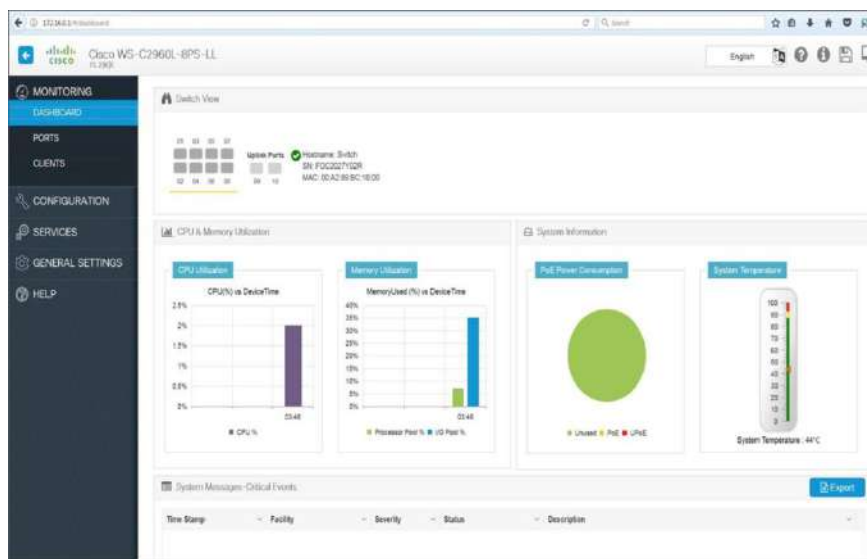

Figure 1.
- **Web UI** via Cisco Configuration Professional. Configuration Professional provides a user interface for day-zero provisioning, which enables easy onboarding of the switch. Configuration Professional also has an intuitive dashboard for configuring, monitoring, and troubleshooting the switch (Figure 1). For more information, about Cisco Configuration Professional, please refer to <https://www.cisco.com/c/en/us/products/cloud-systems-management/configuration-professional-catalyst/index.html>.